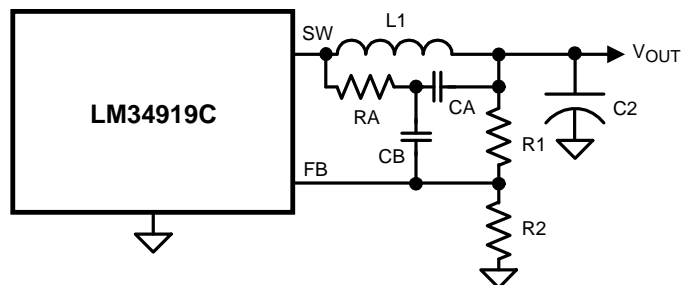

Figure 33. Minimum Output Ripple Using Ripple Injection
b) Minimum ripple configuration: The circuit of Figure 33 provides minimum ripple at V_{OUT} , determined primarily by $C2$'s characteristics and the inductor's ripple current since $R3$ is removed. R_A and C_A are chosen to generate a sawtooth waveform at their junction, and that voltage is AC-coupled to the FB pin via C_B . To determine the values for R_A , C_A and C_B , use the following procedure: